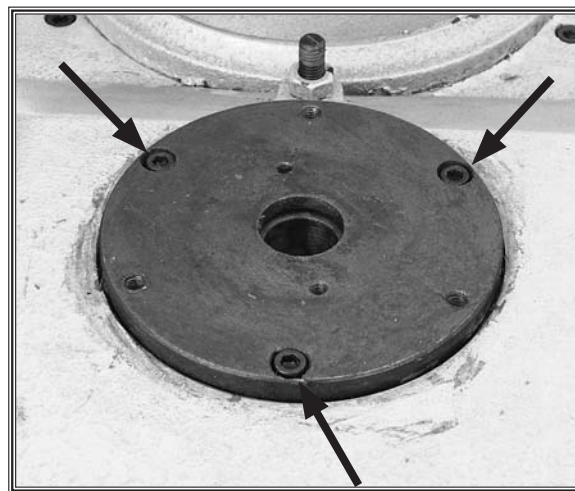

Figure 68. Upper bearing housing.
9. Remove the cap screws from the upper bearing housing and thread them into the holes indicated in **Figure 68** to draw the bearing housing out.